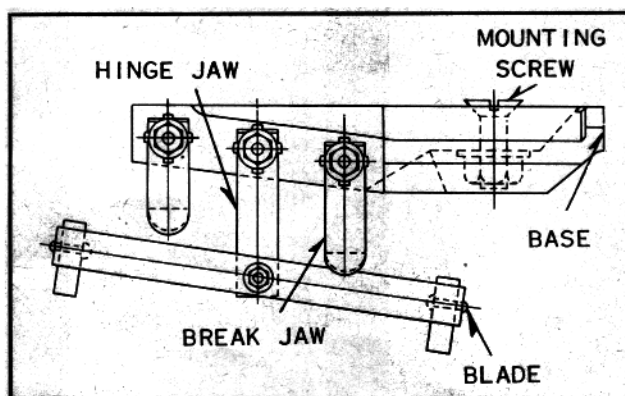
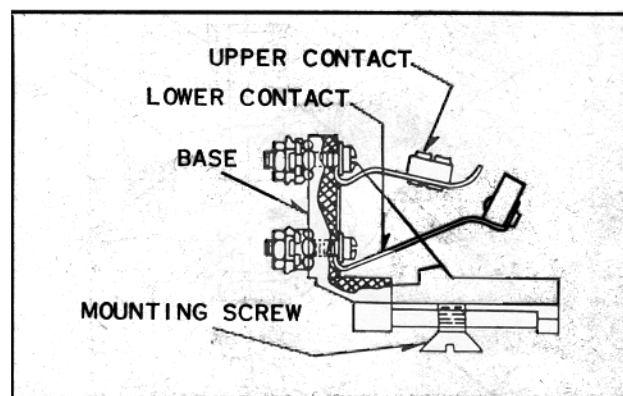

FIG. 18. Auxiliary Switch
FIG. 19. Bell Alarm Switch
1. Place the bell alarm (Fig. 19) or auxiliary switch (Fig. 18), if they are supplied, in the slot in the coverplate.
A two-pole double throw auxiliary switch is shown in Fig. 18. The operation of the trip lever to which the breaker is attached throws the switch from one position to the other. Check from time to time to see